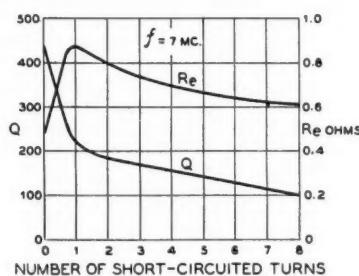
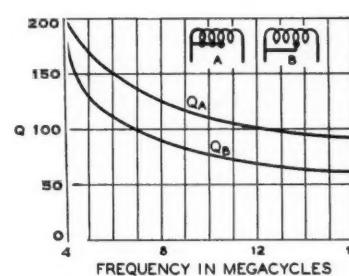

Figure 1.
Figure 2.
Figure 1 shows the behavior of a 12-turn coil of $3/16$ " solid aluminum wire¹ when operated at 7 Mc. while various turns were short circuited. The reason for the large drop in Q as the turns were short circuited is the increase it causes in the effective resistance of the inductance. These short-circuited turns are in the magnetic field of the coil and thus have a voltage induced in them. This voltage gives rise to a current flowing in the short-circuited turn which is dissipated in its resistance. This loss is usually represented by saying that the effective resistance of the inductance has been increased. It will be observed on the graph that the total effective resistance of the coil increases sharply at first, but then decreases slowly. This decrease in the effective resistance is caused by the fact that as the turns are short circuited more of the ohmic d.c. resistance is shunted out and this is a considerable part of the effective resistance. It will be observed that the trend of Q is always downward, and that the greater part of the decrease occurs as the first turn is shorted.
The test made in figure 1 is now quite the same problem that we have when a coil is used to cover two or more bands with the same condenser. In the above tests the coil was retuned to the same frequency each time a turn was shorted. The data shown in figure 2 show how the Q changes when a coil is made to tune to various frequencies with the same setting of the condenser, the tuning being accomplished by adjusting the inductance by short circuiting the turns. It may be noted that the maximum Q is only 200 compared with 420 for the coil of figure 1. This is partly due to the lower frequency (4 compared to 7 Mc.) and partly due to the fact that in the second case, the coil was made of much smaller wire, no. 18 instead of $3/16$ " solid. One of the most interesting features of figure 2 is the difference in the value of Q which results from making a continuous soldered short circuit across all the turns shorted (A), and the use of a clip-lead jumper around several turns at once (B). It is seen that when going from 4 to 7 Mc. the reduction in Q in the first case is only 33